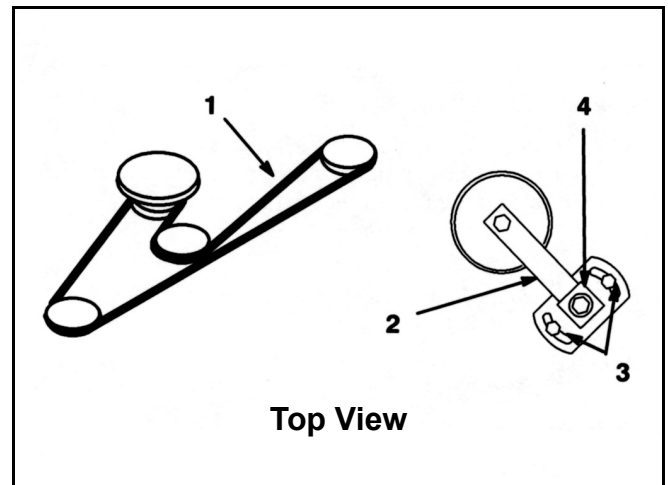

Figure 112
3. Remove PTO drive belt from pulley and front idler pulley assembly. Remove the PTO drive belt (Figure 112).